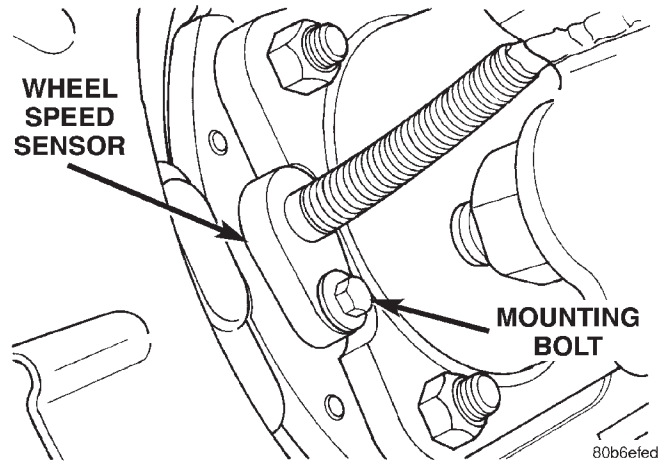

Fig. 12 Sensor Mounting Bolt
- (3) Push sensor wires and grommets through floorpan holes.
- (4) Raise and support the vehicle.
- (5) Disengage sensor wire from axle and chassis brackets and from brake line retainers.
- (6) Remove the sensor mounting bolt from the rear brake backing plate (Fig. 12).
- (7) Remove sensor from the backing plate.